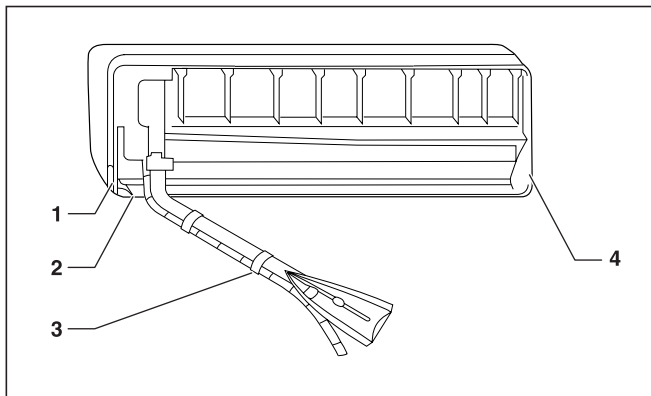

Fig. 9.7 Windows for the installation of the pipes.
- Case B: Running the pipework out of either side or the bottom of the unit. In this case holes do not have to be made in the wall since the indoor unit body has knock outs which can be opened to allow the pipes to exit the unit: choose the most convenient one for the desired outlet position (see Figure 9.7).